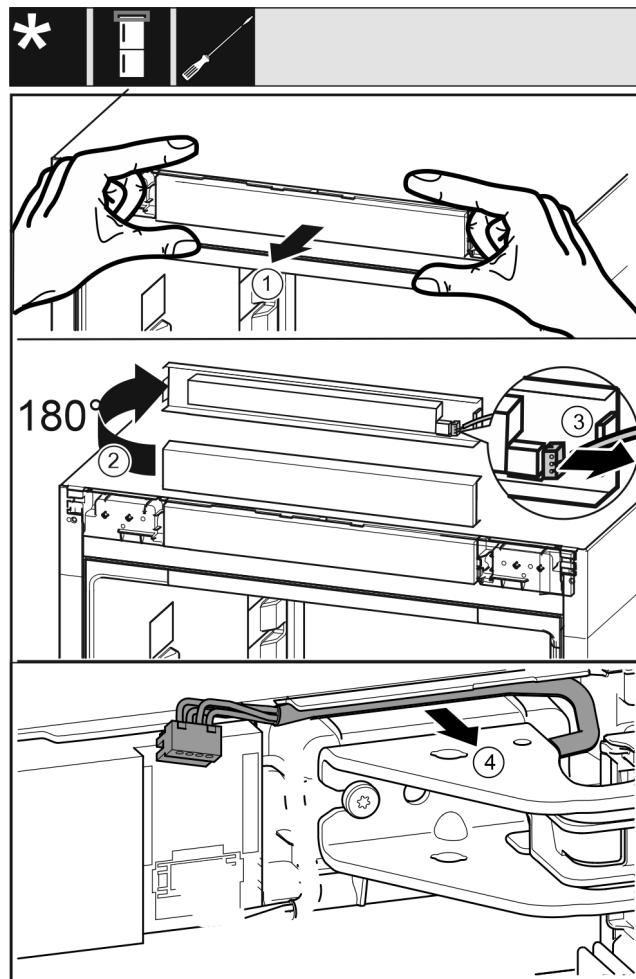

Fig. 20
- Carefully loosen the control plate Fig. 20 (1) toward the front.
- Turn the control plate Fig. 20 (2) upward by 180°.
- Press the latching tab Fig. 20 (3) backwards and carefully pull out the plug.
- Carefully loosen the cable Fig. 20 (4) above the swap bearing block from the guide.